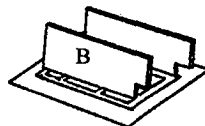
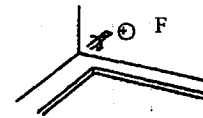

Figure 3
Figure 4
4. Take two side-panels (B) and insert them into the two grooves on each side of the face frame and align each cam lock (Figure 3). When the cam screw on the face frame fit properly into the cam lock on the side panels, use a screw driver to turn the cam Clock 180° degrees clockwise to lock the cam lock (Figure 4).